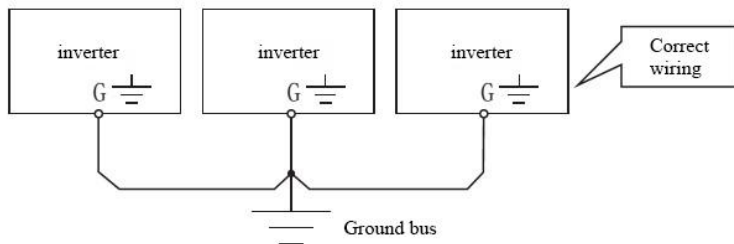

figure 1-1
- For safety reasons, the grounding terminal of the inverter must be reliably grounded to avoid the influence of grounding common impedance interference. The grounding of multiple inverters should adopt the single-point grounding method, as shown in Figure 1-1 .